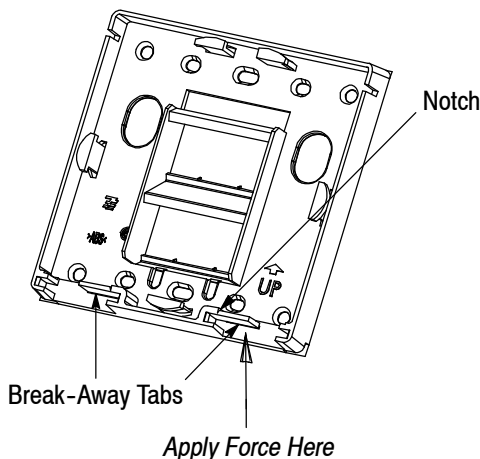

Figure 3
3. For simplex fiber optic couplers and duplex LC fiber optic couplers, apply force to the break-away tab (as indicated in Figure 3) until it breaks off at the notch of the tab.
- Changed Figures 1 and 2, and added Figure 3